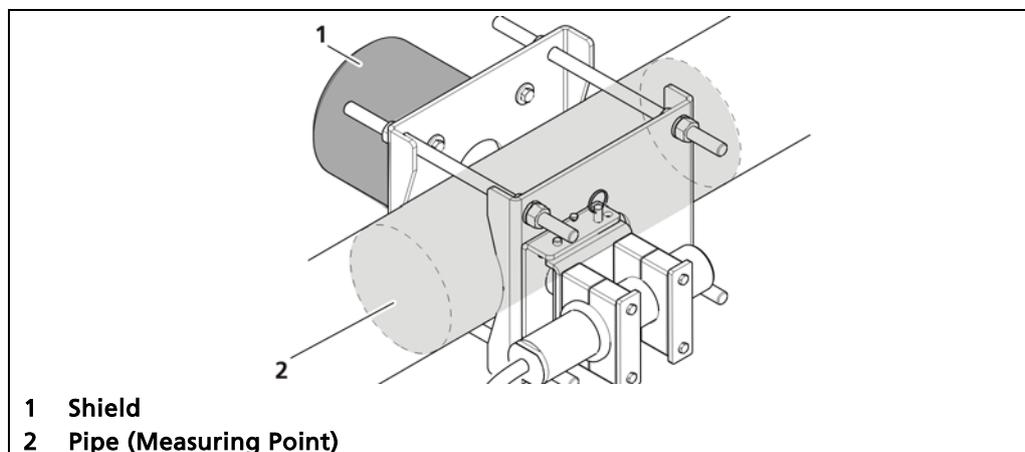

Fig. 22 Measuring arrangement
3. Make sure that the pipe is empty or filled with pure water at the measurement point (Fig. 22, item 2).
4. If necessary, open shield shutter (Fig. 22, item 3). Follow the instructions in the operating manual of the detector or the shield.
9. Click on the button (Fig. 22 item 5) to read in the lower calibration point.
13. Click on the button (Fig. 22 item 6) to read in the upper calibration point.